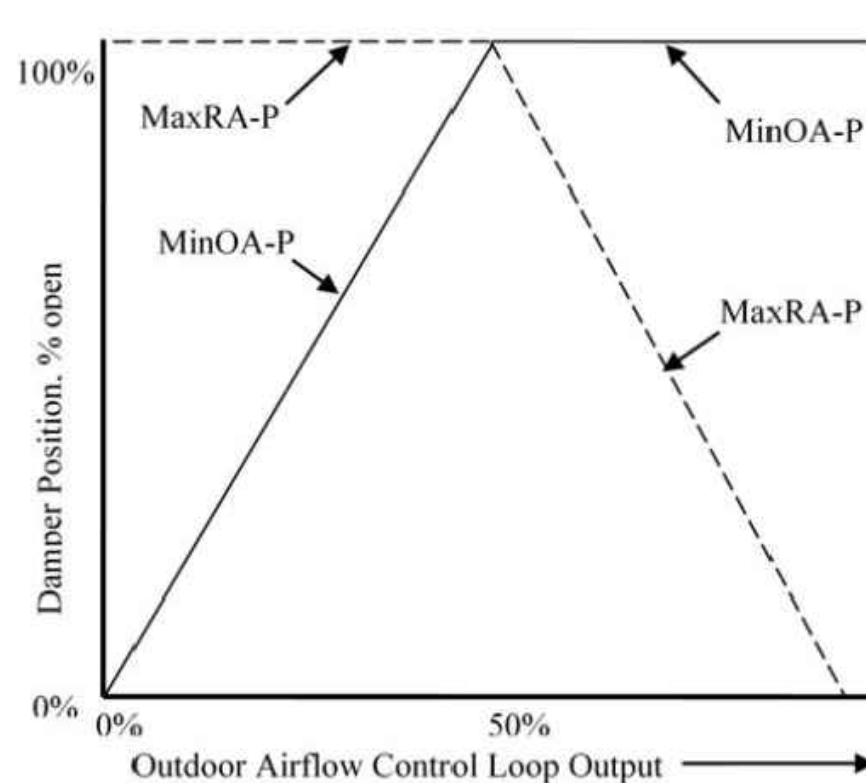

FIGURE 1
- 1.2. The outdoor airflow rate shall be maintained at the minimum outdoor air setpoint  $MinO_{Asp}$  by a reverse-acting control loop whose output is mapped to the outdoor air damper minimum position  $MinOA-P$  and return air damper maximum position  $MaxRA-P$  as indicated in Figure 1.